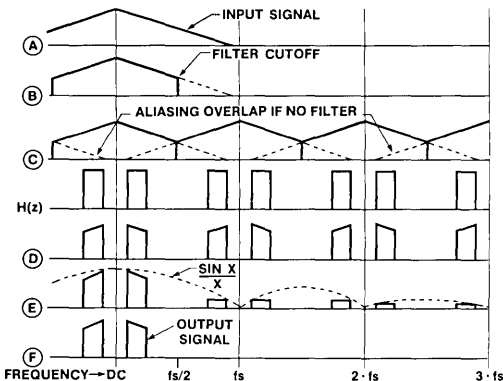

Figure 4. Aliasing Spectra of Figure 3 DSP Functions
a DC term. Recalling Eq. (1) all possible sum and difference frequencies will be generated when the impulse train and the input signal are multiplied. This process is shown graphically in Figure 4. Observe that if the input contains frequencies greater than half the sampling frequency, the spectra in Figure 4 will overlap. This overlap phenomenon is known as *aliasing distortion*, and introduces noise in the signal.
The spectral effects of reconstruction are shown in Figure 4.